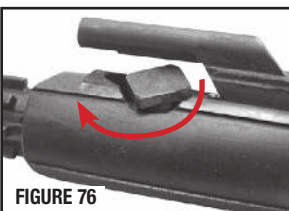

FIGURE 76
- Turn the bolt cam pin $\frac{1}{4}$ turn (FIGURE 76).